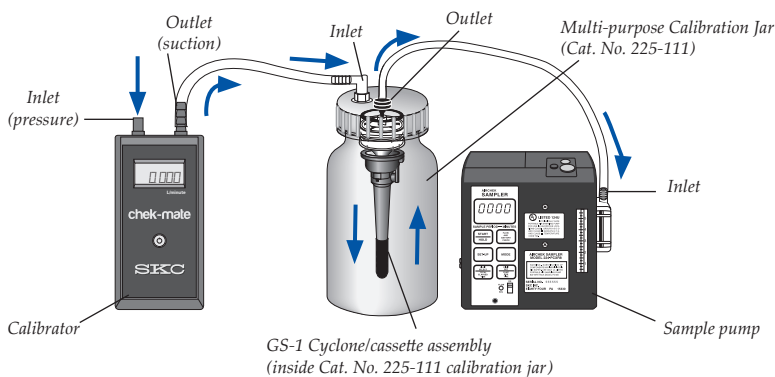

Figure 3.
2. Place cyclone/cassette assembly into an airtight calibration jar that contains an inlet and outlet (Cat. No. 225-111; Figure 3).